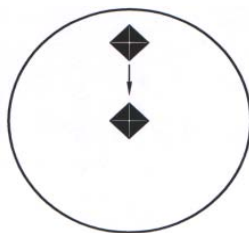

Figure 6-12 Image is above the center
1. The image is above the center. Refer to Figure 6-12.